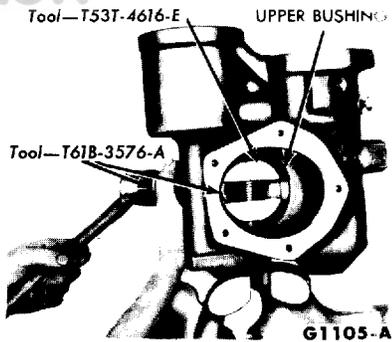

FIG. 19—Upper Bushing Removal
5. Remove the upper bushing (Fig. 19).